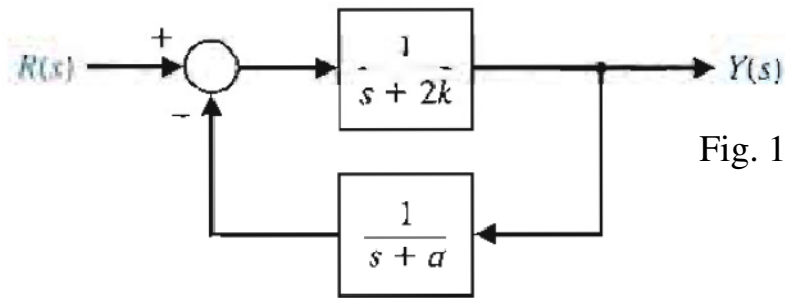

Fig. 13
18. Consider the closed-loop system in Fig. 13. Determine values of the parameters k and a so that the following specifications are satisfied: